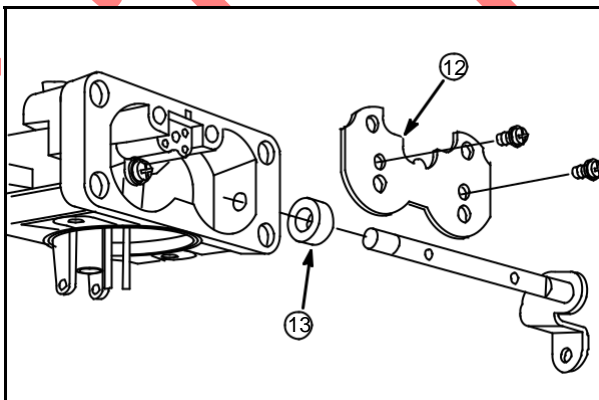

Fig. 120
Remove screws and choke plate (12), Fig. 120.